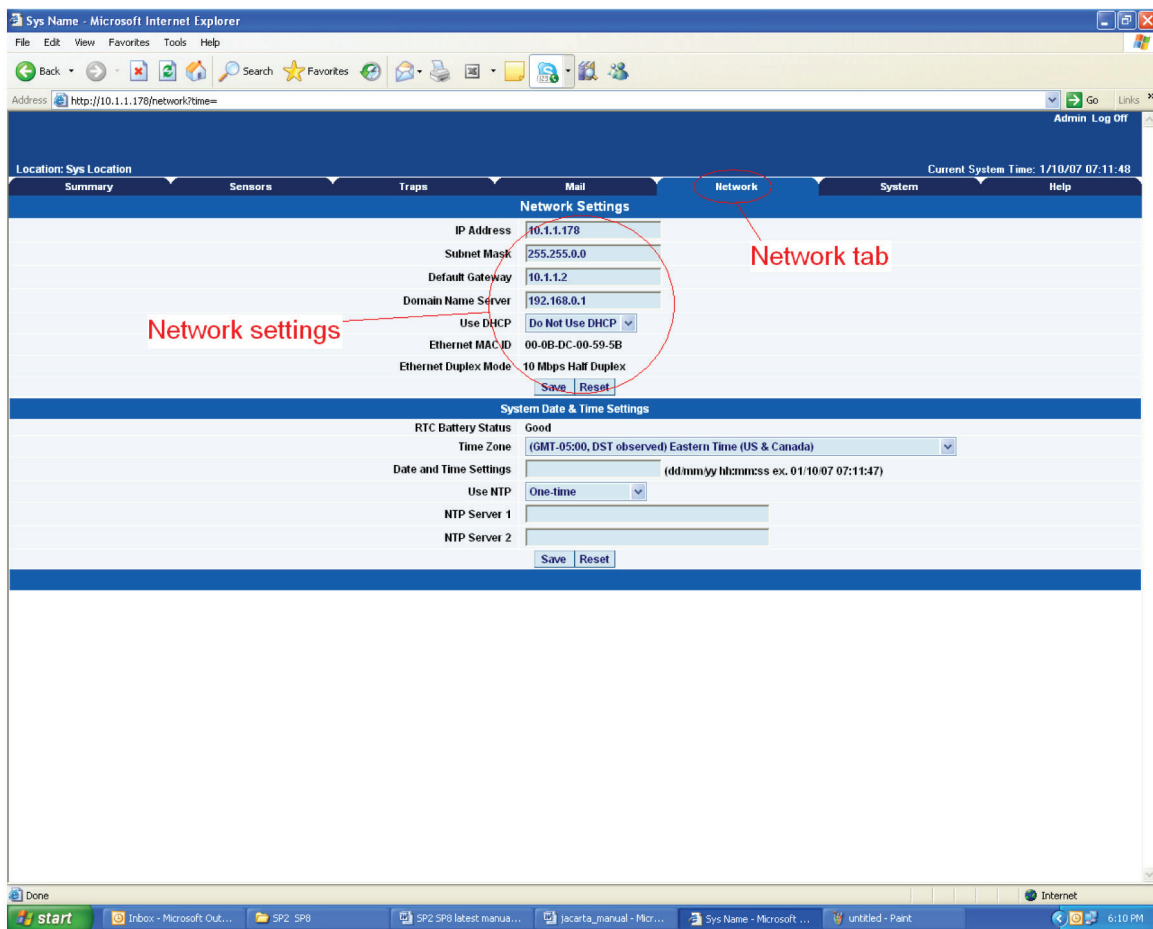

Figure 6-1. Network screen.
4. After clicking the "Network" tab you will be taken to the screen shown in Figure 6-1.